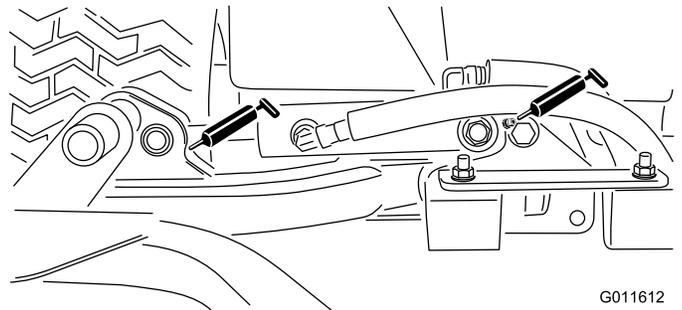

Figure 25
- Cutting unit lift arm cylinders (2 each) (Figure 25)
- Lift arm pivots (1 each) (Figure 25)